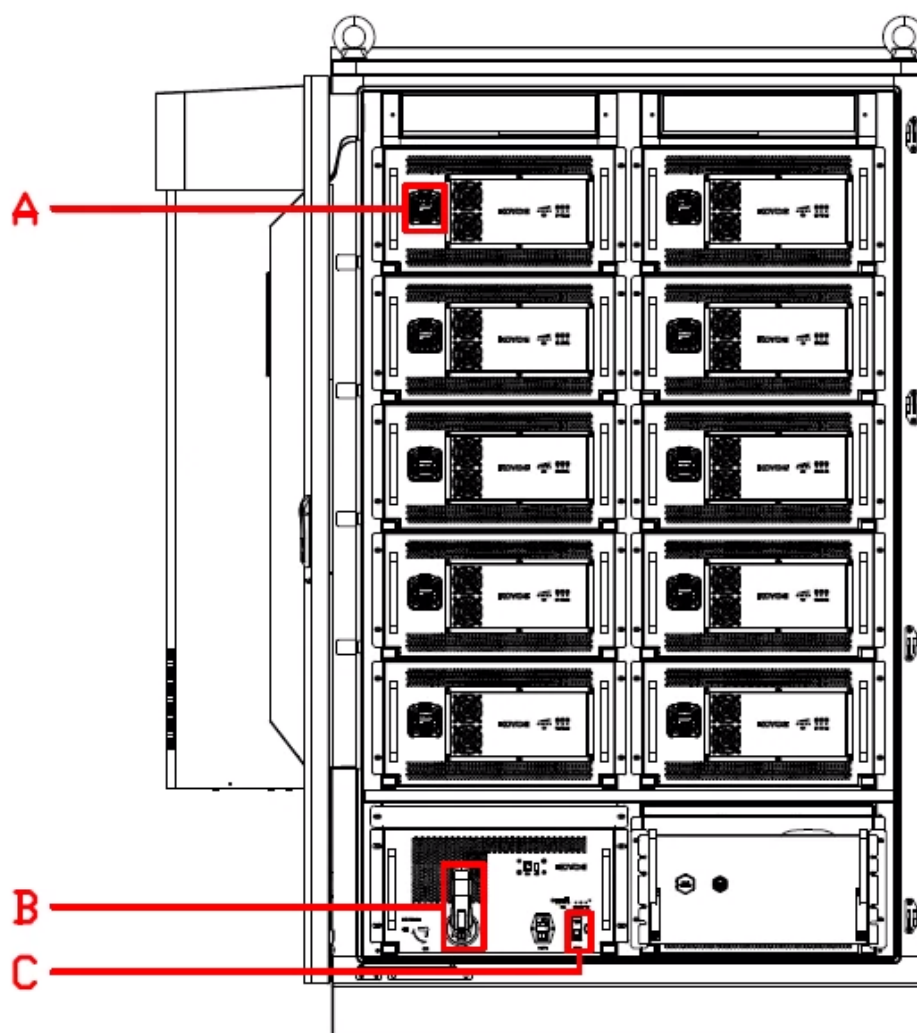

Fig. 7-1 Overview of operation switch position (KYT125kW-216kWh-Bfor example)
* For each position, please refer to Fig. 7-1 for the overview of the operation switch position
For the location of each circuit breaker, please refer to the 'Fig. 7-1'